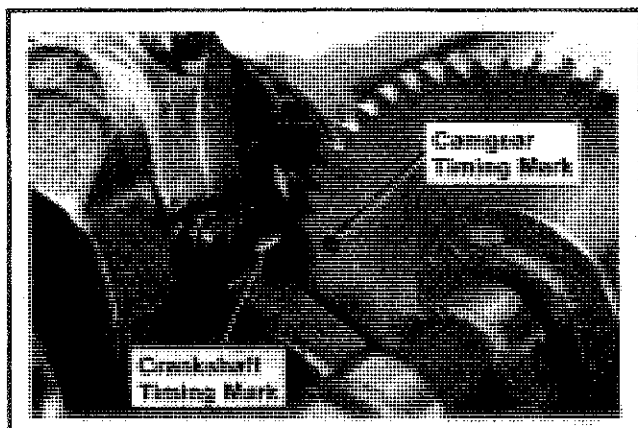

Figure 11-16. Aligning Crankshaft And Camgear Timing Marks.
3. Place the camshaft into the #1 side of crankcase. Make sure the timing mark on crankshaft aligns with the timing mark on camgear. Refer to Figure 11-16.